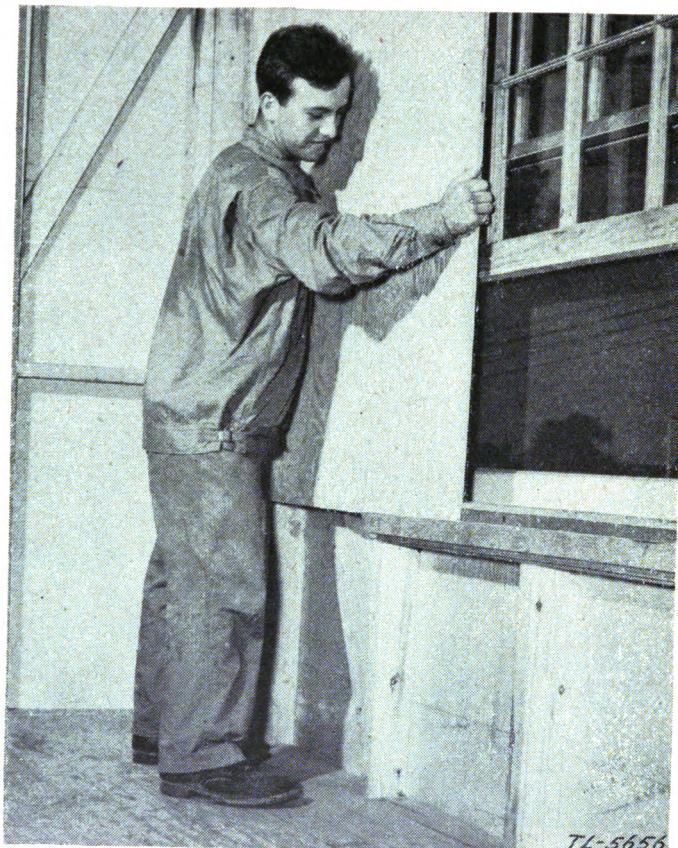

FIGURE 45.—Plywood shade.
(3) Detachable plywood panels that slide in horizontal slots will shade windows effectively, but shut off ventilation which must be provided from some other source. (See fig. 45.)
(4) Ordinary window shades may be used if weighted or fastened at the bottom to prevent blowing.